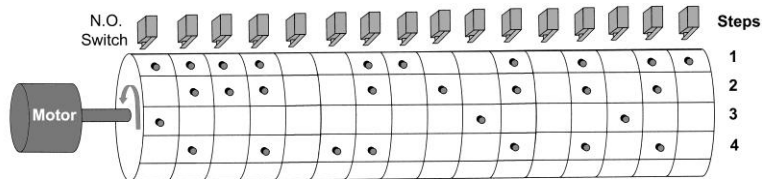

Figure 12-1 Sequencer data for question 5.
5. The equivalent sequencer data for step 2 of the sequencer shown in Figure 12-1 would be 5. _____